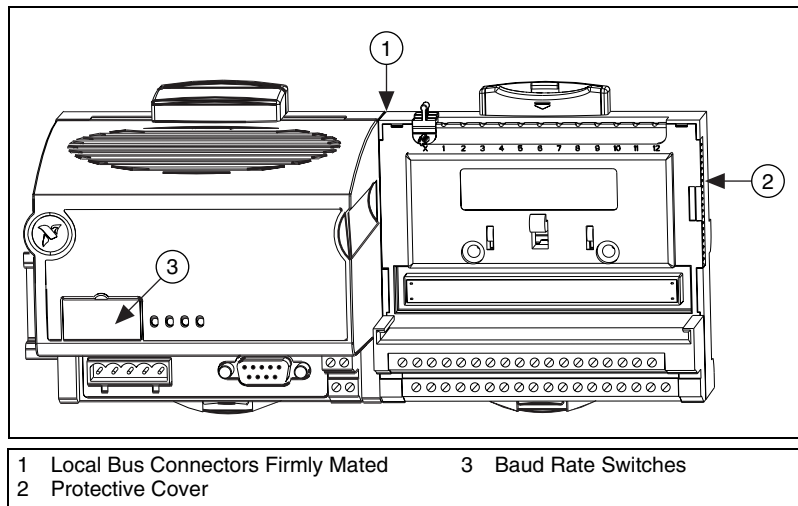

Figure 1. Connecting FieldPoint Terminal Bases
1. Attach the network module to the calibration base as shown in Figure 1.